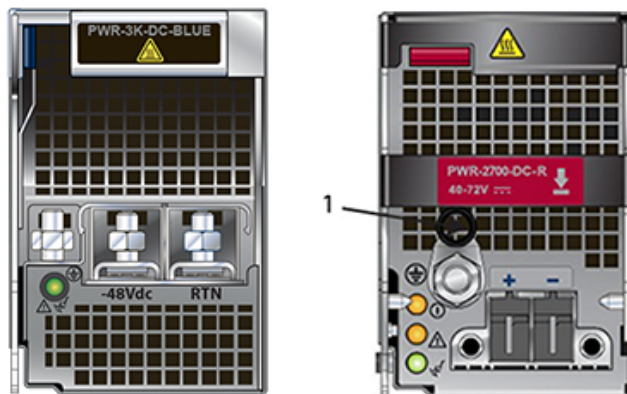

Figure 19: PWR-3K-DC-Blue and PWR-2700-DC-R Power Supplies
**Note:** The power supply orientation in your device may be different from the one shown in Figure 19: PWR-3K-DC-Blue and PWR-2700-DC-R Power Supplies .